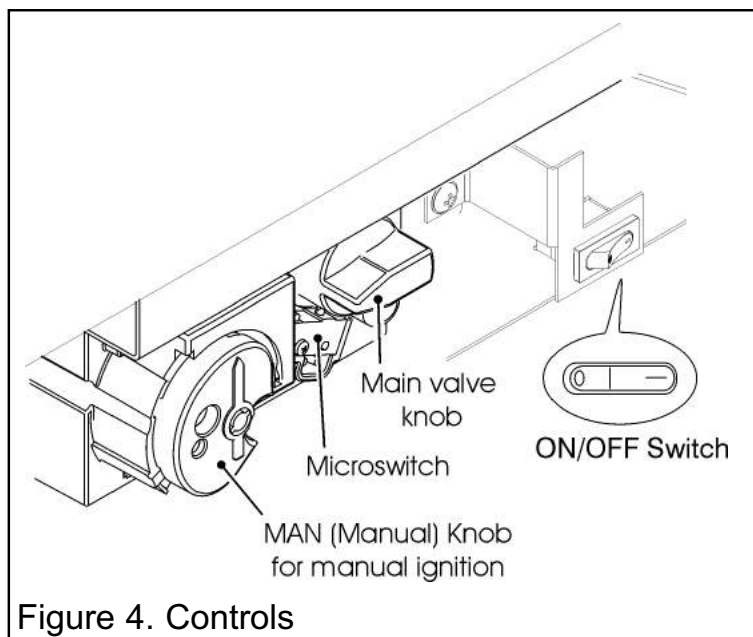

Figure 4. Controls
- The 'main valve knob' is the knob on the right hand side (See figure 4). Turn this knob to the 'OFF', fully clockwise position .